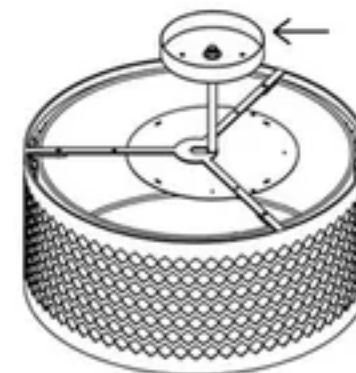
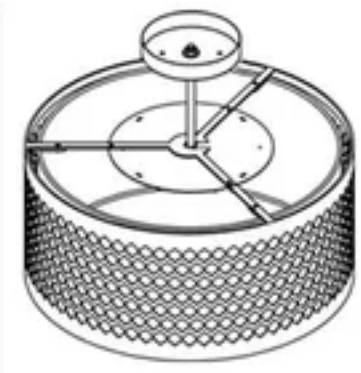
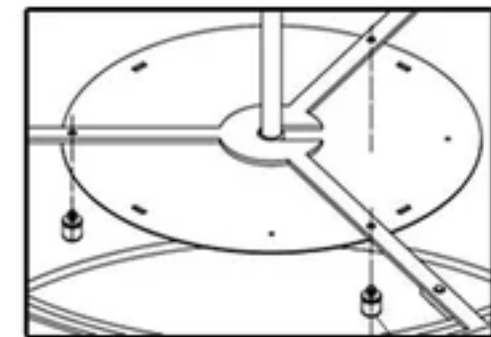

Fig. 2
Fig. 3
Fig. 4
3. Push the Light Module(B) into Frame(C) (See Fig.2 and Fig.3).then secure with Decorative Screw(DD) until snug(See Fig.4).